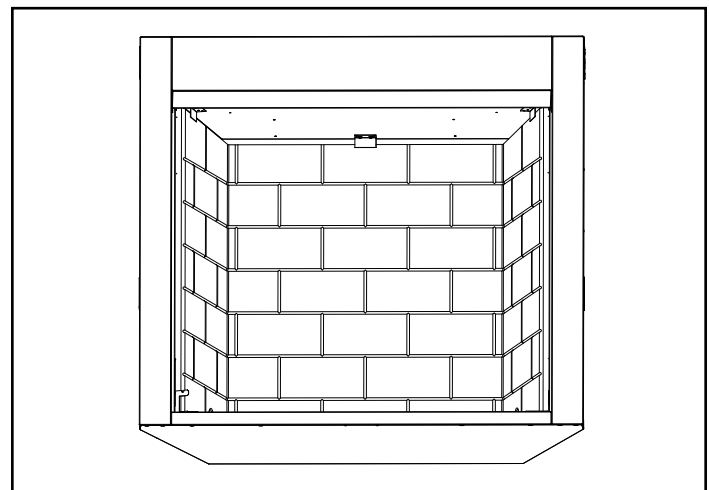

Figure 2
5. Install side ceramic firebrick panel against the side of the firebox and slide back into the rear panel. Reinstall brick bracket in same hole location. Repeat for opposite side. See Figure 2.